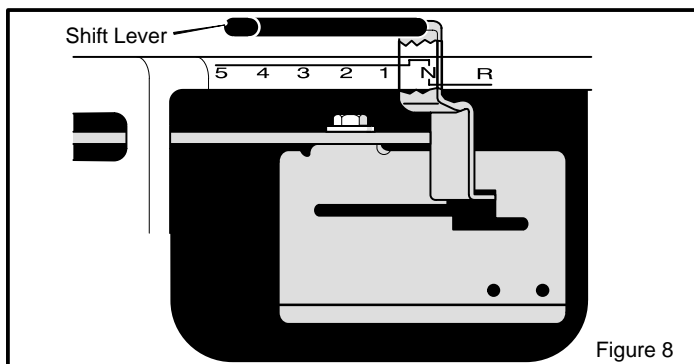

Figure 8
3. To move the **shift lever** to neutral (N) from a forward gear, pull the **shift lever** back and then move to the right (Figure 8).
4. To move the **shift lever** to a forward gear from neutral (N), pull the **shift lever** to the left and then push the **shift lever** forward.